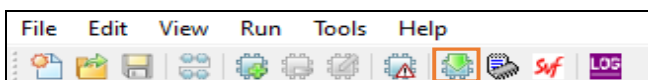

Figure 6.10. Programmer Menu Bar
7. Click **Programming** from the menu bar to start programming (Figure 6.10).